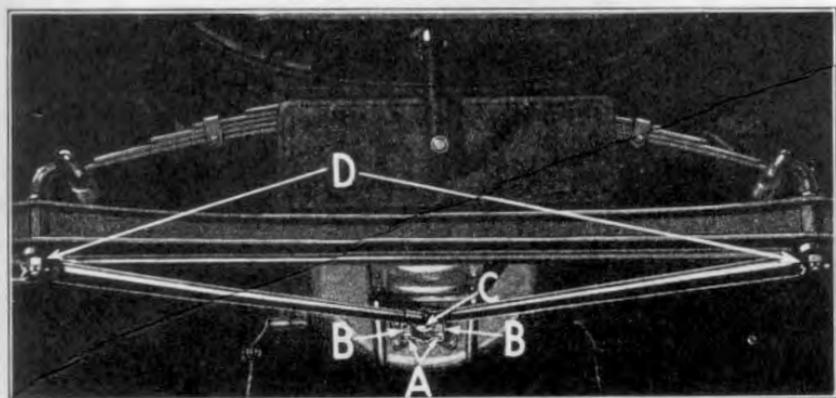

Fig. 379
- 696 Place axle on jacks, position spring pad on spring and lower front end of car until spring enters cross member, making sure that head of tie bolt enters hole in front cross member (See Fig. 63). Place spring clip bar and license bracket over ends of spring clip (See Fig. 59), and run down the two spring clip nuts drawing them down tightly and locking with cotter keys. Place a little cup grease in radius rod ball socket and position ball on end of radius rod into socket. Place ball cap and springs over ends of studs, the two stud nuts are then run down on studs and locked by wiring them together as shown at "A" Fig. 379.
- 719 Break wire and run off the two radius rod ball cap stud nuts (See "A" Fig. 379), lift off springs "B" and ball cap "C".
- 727** Insert ends of radius rods over ends of spring perches and run down the spring perch nuts locking them with cotter keys. (See "D" Fig. 379).